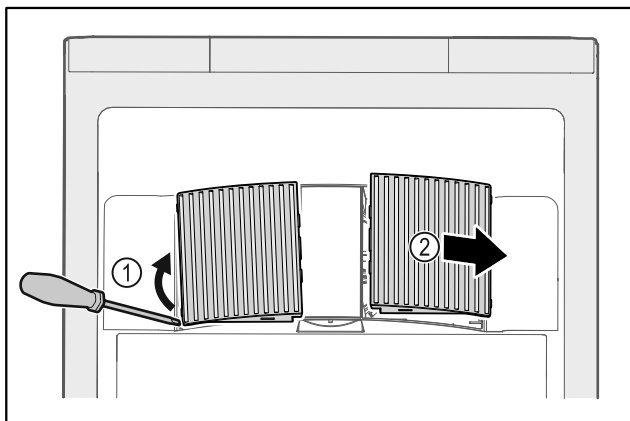

Fig. 227
- ▶ Carefully lever out fan covers from the side Fig. 227 (1) and remove towards the front Fig. 227 (2).